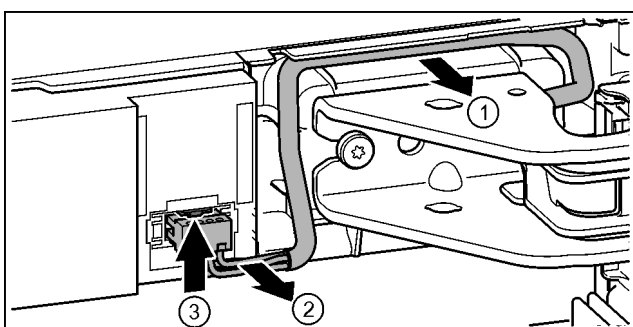

Fig. 23
- ▶ Carefully remove the cable over the bearing bracket from the guide. Fig. 23 (1)
- ▶ Carefully pull the cable strands out of the channel. Fig. 23 (2)
- ▶ Press the tab upwards and carefully remove the plug. Fig. 23 (3)